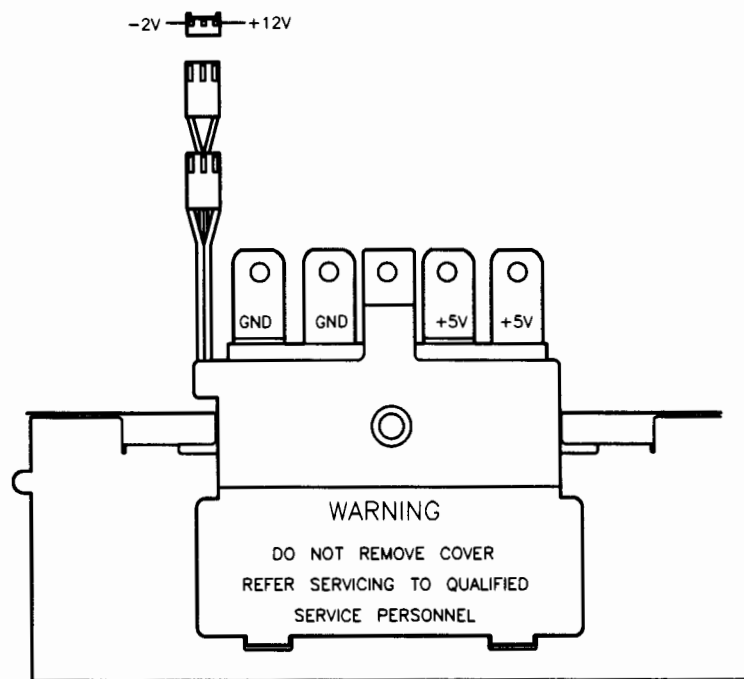

Figure 8-1. Power Supply Output
4. Check voltages out of the Power Supply (Figure 8-1). Note that the voltages are marked on the boards next to the power supply connections to the board.